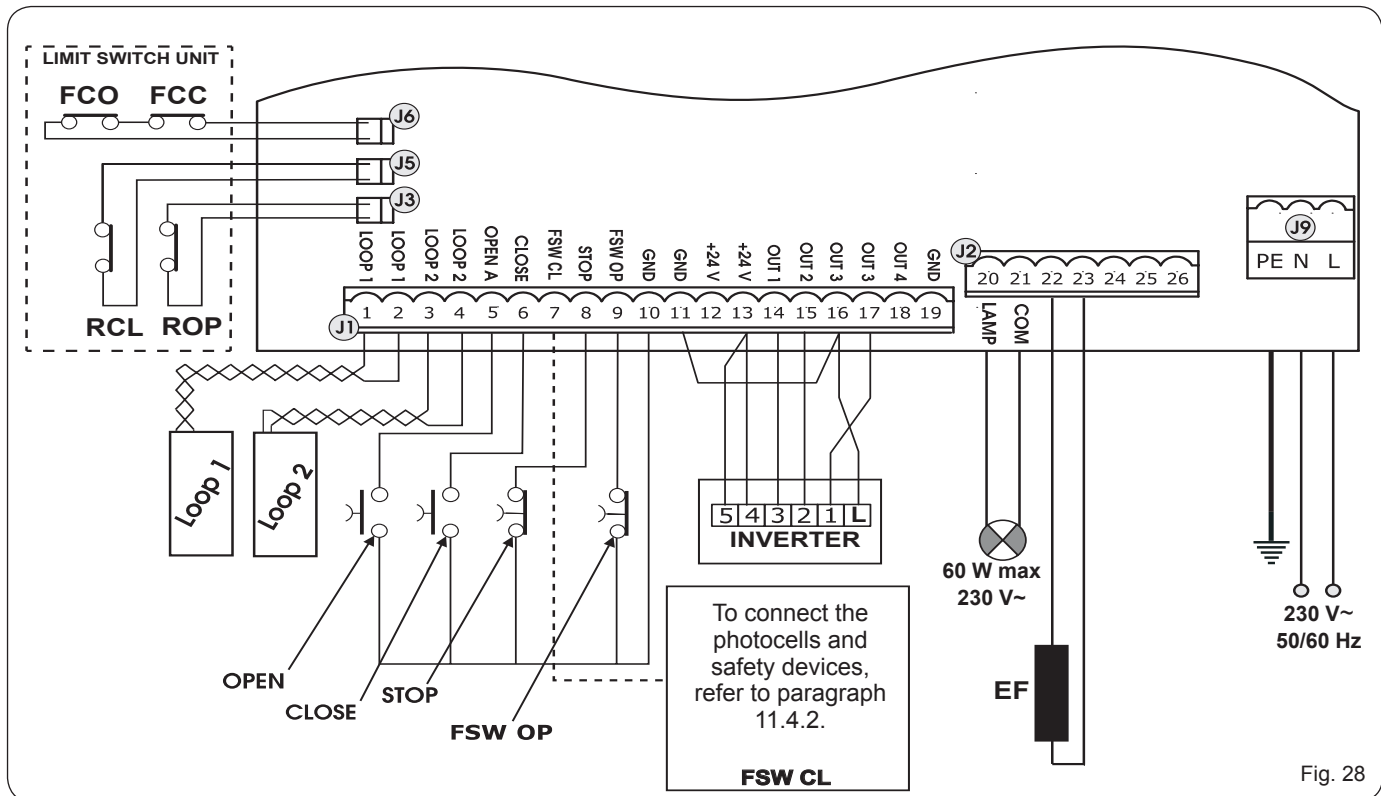

Fig. 28
- Connect the earthing cable to the corresponding terminal on connector J9 of the equipment (see fig.28).
11.4.1 TERMINAL BOARD J1 - ACCESSORIES (FIG. 28)
To avoid compromising correct system operation, do not exceed the power indicated in fig. 28.
11.4.4 TERMINAL BOARD J2, FLASHING LAMP (FIG. 28)
OPENING AND CLOSING LIMIT SWITCHES (FIG. 28)